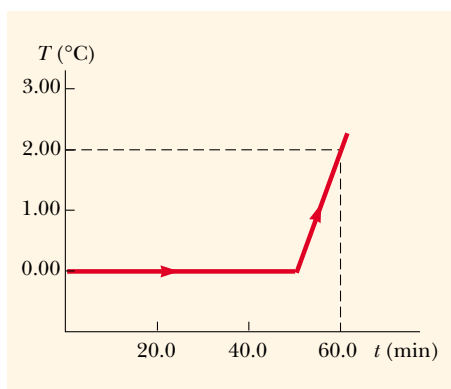

Figure P20.66
66. A cooking vessel on a slow burner contains 10.0 kg of water and an unknown mass of ice in equilibrium at 0°C at time $t = 0$. The temperature of the mixture is measured at various times, and the result is plotted in Figure P20.66. During the first 50.0 min, the mixture remains at 0°C . From 50.0 min to 60.0 min, the temperature increases to 2.00°C . Neglecting the heat capacity of the vessel, determine the initial mass of the ice.